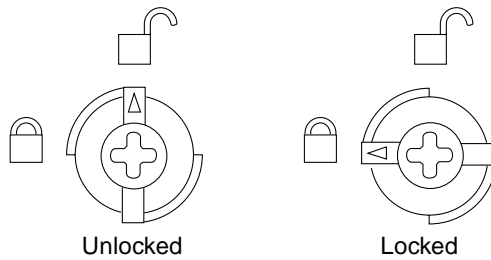
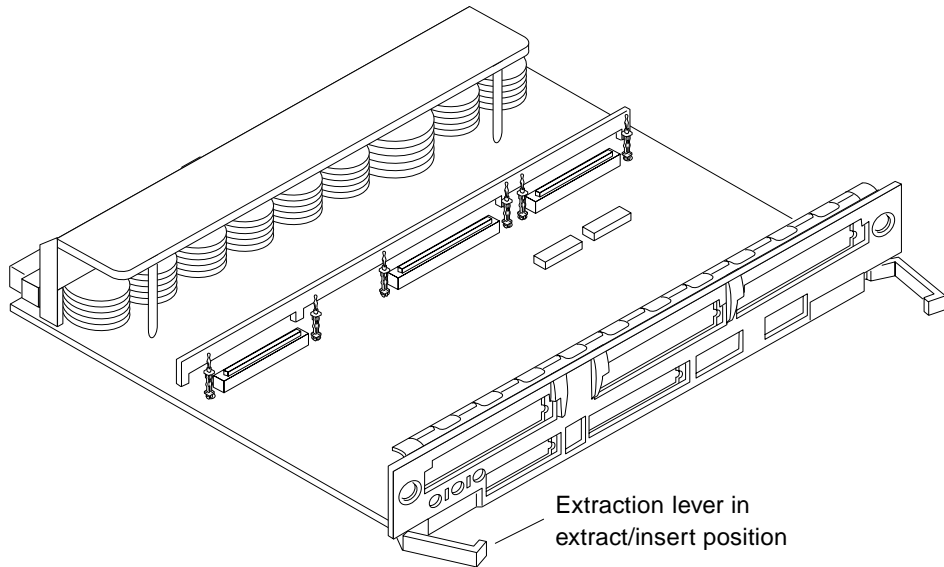

FIGURE 4-7 Unlocking and Locking Quarter-Turn Access Slots
FIGURE 4-8 Extraction Lever in Extract Position
Insert the screwdriver into each quarter-turn access slot (the slots are located on the left and right sides of the board front panel) and then turn a quarter turn so that the arrow points to the unlocked position (FIGURE 4-7).
4. Pull the ends of both extraction levers outward simultaneously to unseat the board centerplane connector from the centerplane receptacles (FIGURE 4-8).
3. **Pull the ends of both extraction levers outward simultaneously to unseat the board from the centerplane receptacles (FIGURE 4-8).**
The board will not seat fully unless the levers are in this starting position and the access slots are unlocked. See FIGURE 4-7, and FIGURE 4-8 on page 4-10.
- 4. Mechanically lock the board to the system chassis by inserting a Phillips #1 screwdriver into each quarter-turn access slot and then turning to the locked position (FIGURE 4-7).**